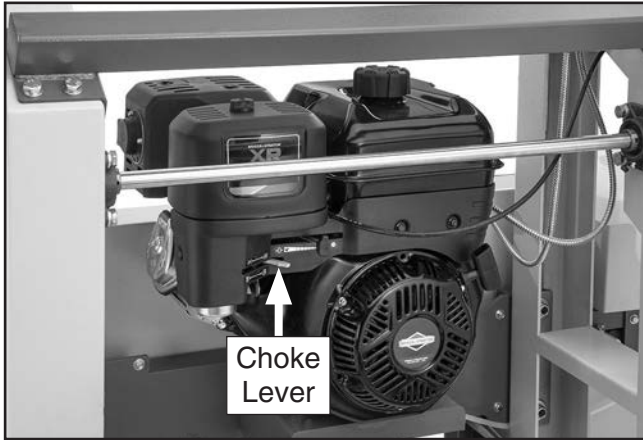

Figure 22. Location of choke lever.
6. Close choke (🔒) (see **Figure 22**).